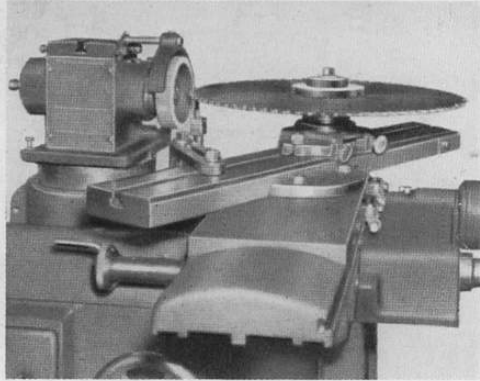

Fig. 25
6. If the saw is too large to grind with the table in the normal position, swivel the table a sufficient amount to allow the saw to pass the wheel. (Fig. 25)